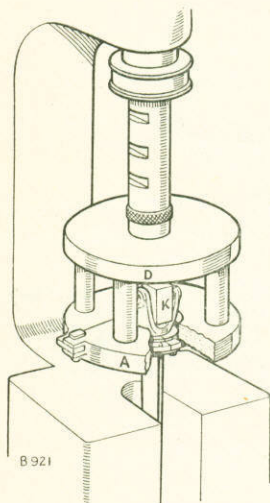

Fig. F-24—
3. LATE TYPE AXLES ONLY. Stand the half shaft on its splined end and press down squarely on the conical distance piece, using press blocks, A, D, J and K (Part No. 245178) (Fig. F-24).